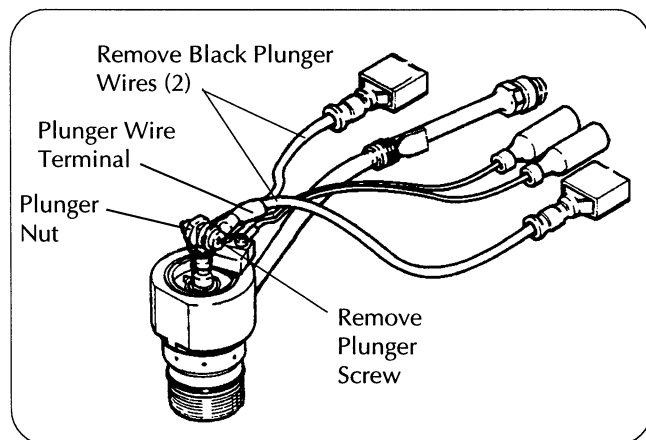

Figure 8 Replacement Torch Main Body - 120556
5. Remove the plunger screw and nut from the replacement torch main body 120556 and remove the black plunger wires (2) - Fig. 8. Note: Hold the plunger nut with a 1/4" nut driver or wrench when removing the plunger screw.